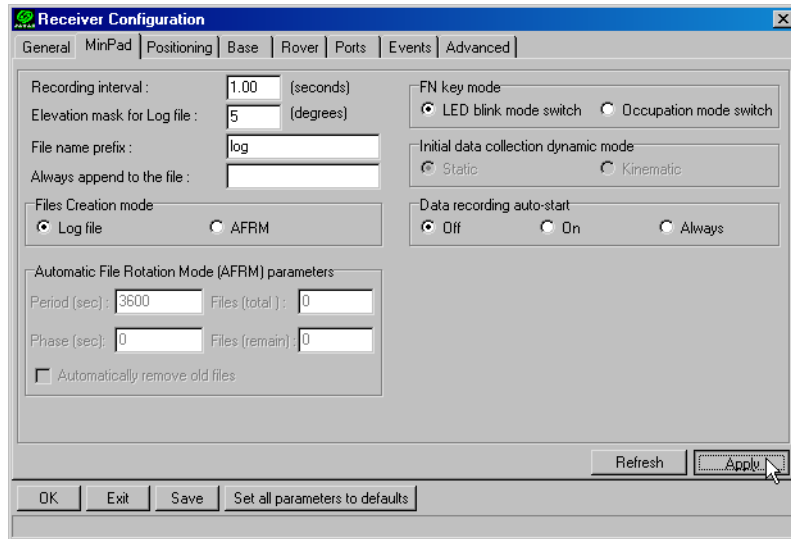

Figure 2-15. Receiver Configuration – MinPad Tab
- Click the **MinPad** tab, configure the following settings, and click **Apply** (Figure 2-15 on page 2-16).